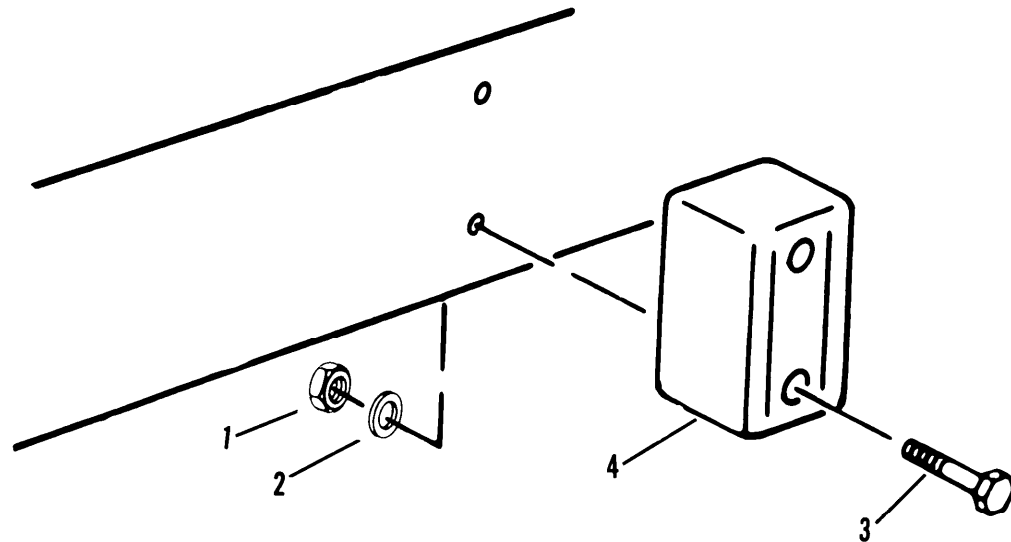

Figure 4-44. Dock Bumper
- (1) Remove two nuts (1, fig. 4-44), washers (2), and screws (3).
- (2) Remove dock bumper (4).
- (3) Repeat steps (1) and (2) for other bumpers as needed.
- (1) Place dock bumper (4, fig. 4-44) into position.